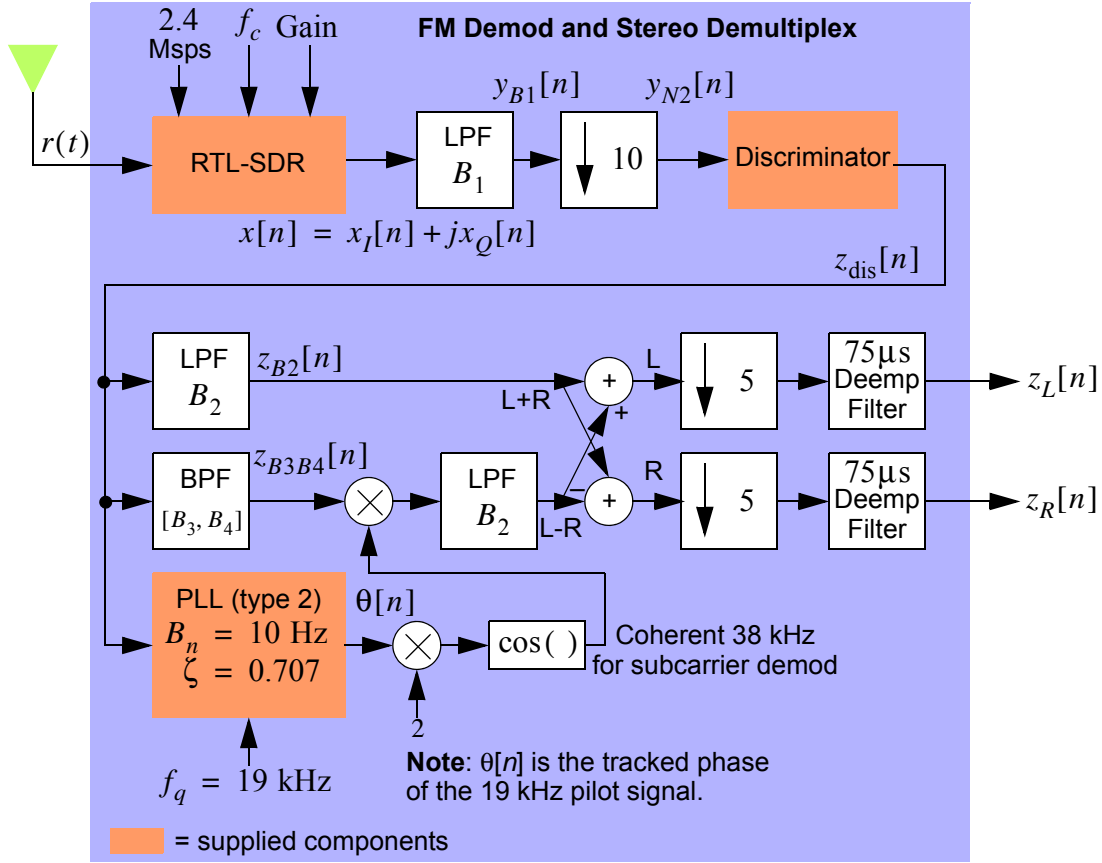

Figure 18: Enhancing the FM demodulator with stereo demultiplexing.
Here the receiver is more complex as the demodulated FM carrier is a multiplexed signal consisting of at least $L + R$ at baseband, a 19 kHz *pilot* tone, and the $L - R$ signal double-sideband modulated on a 38 kHz subcarrier. Yes, $38 = 2 \times 19$ to allow coherent demodulation using the 19 kHz pilot tone. The left and right audio channels are also *preemphasized* at the transmitter, so they must be *deemphasized* at the receiver. A phase-locked loop (PLL) will be used to track the pilot tone and then frequency double it to 38 kHz. Numerous filters are also employed. The complete receiver block diagram is shown in Figure 18. The PLL is a supplied function block available in the Lab 6 ZIP package. The block diagram may look complex, but your starting point is the receiver function created in Problem 1 of Subsection 5.3.
5. Continuing the test of the `pilot_PLL`, plot the spectrum of the PLL output by forming the new signal $\cos(\theta[n])$. The spectral line you see should be exactly at 19 kHz. Now plot the spectrum of $\cos(2 \times \theta[n])$. The spectral line should be exactly at 38 kHz. The 38 kHz sinusoid is the signal you will use to coherently demodulate the $L - R$ 38 kHz subcarrier signal (refer to Figure 18) for details.